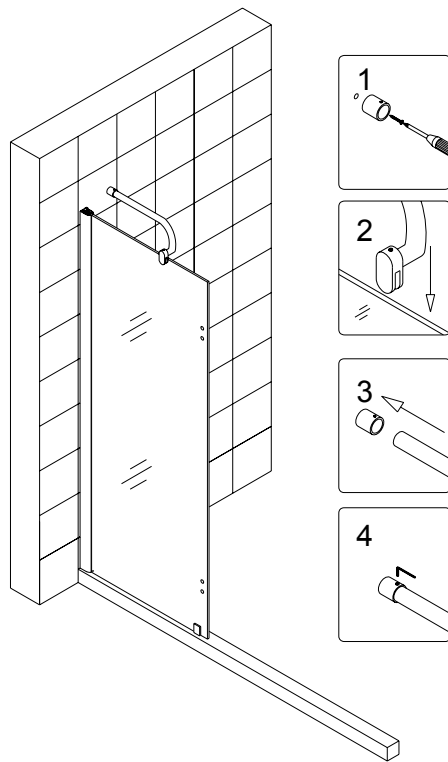

Fig 5
5. Attach the bracket onto the wall with the **Screw ST4.2×30 (10)**. Place the **Support bar (03)** with channel on the glass and insert the other end into the bracket. Tighten the set-screws provided at both ends. See Fig.5 for details.